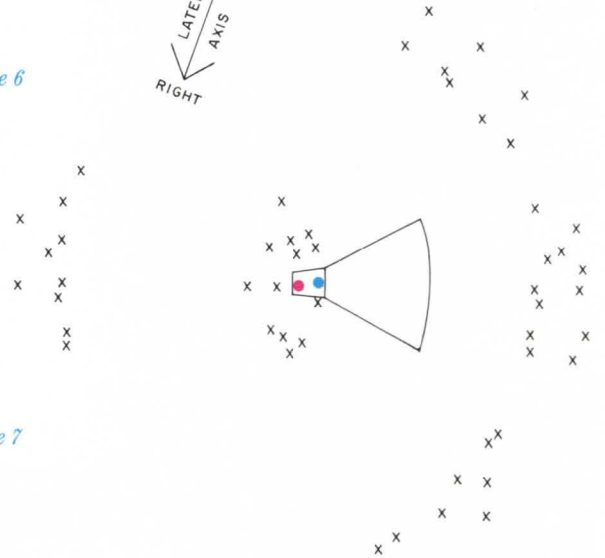

Figure 7
We can demonstrate the genesis of the echo if we study the image locations in Figure 7. Note that the images lie in a circular pattern centered on the stage. Thus, to the performer on the stage, the strength and coherence of the sound returning from the rear wall, the dearth of sound energy between the direct sound and that arriving from the rear wall, and the fact that the echo arrives from the end of the room opposite the performers all combine in the brain to emphasize the disturbing aspects of the echo.
*Sound that arrives in the median plane—i.e., directly in front, above, below and behind the listener—does not contribute to lateralization. With both sound source and listener on stage, as two musicians listening to each other would be, the images constructed by computer for a fan-shaped room lie in a circular pattern centered on the stage (Figure 7).*